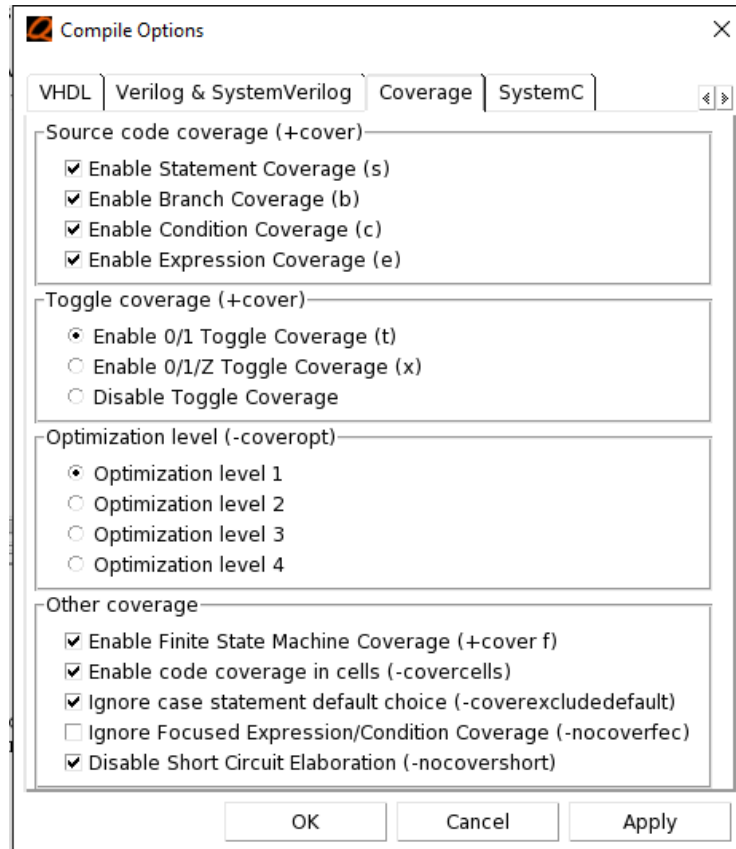

Figure 3: Coverage Compile Options
3. Make sure the options are selected as shown in Figure 3.